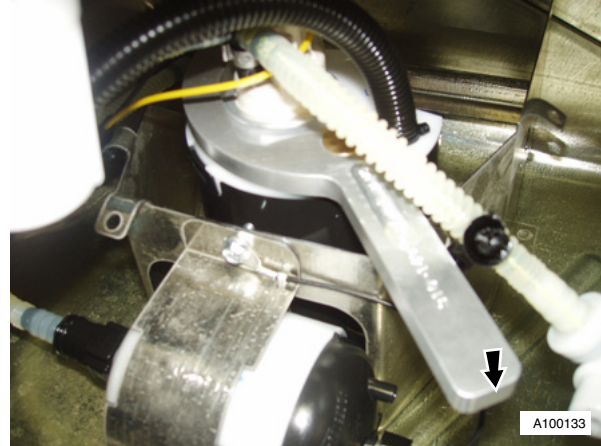

Fig. 4
15. Install fuel pump removal tool (310-140) (see Fig. 4).